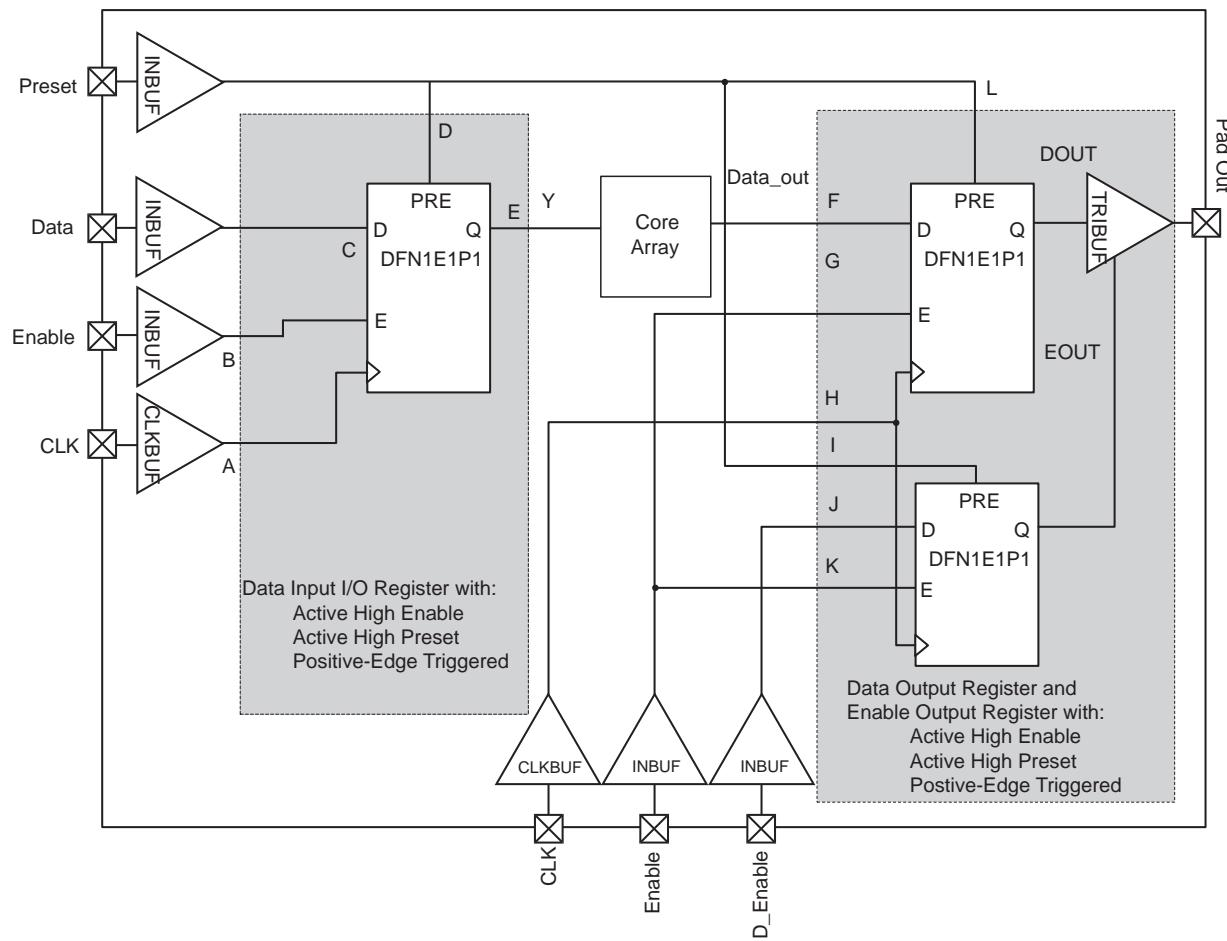

Figure 2-14 • Timing Model of Registered I/O Buffers with Synchronous Enable and Asynchronous Preset
* See Figure 2-14 on page 2-71 for more information.